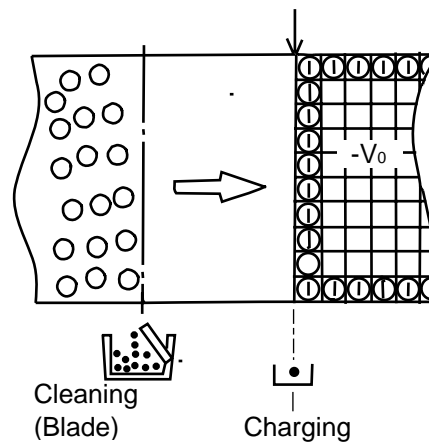

Fig.4-12
- (2) Process of Charging (Refer to Fig.4-12.)